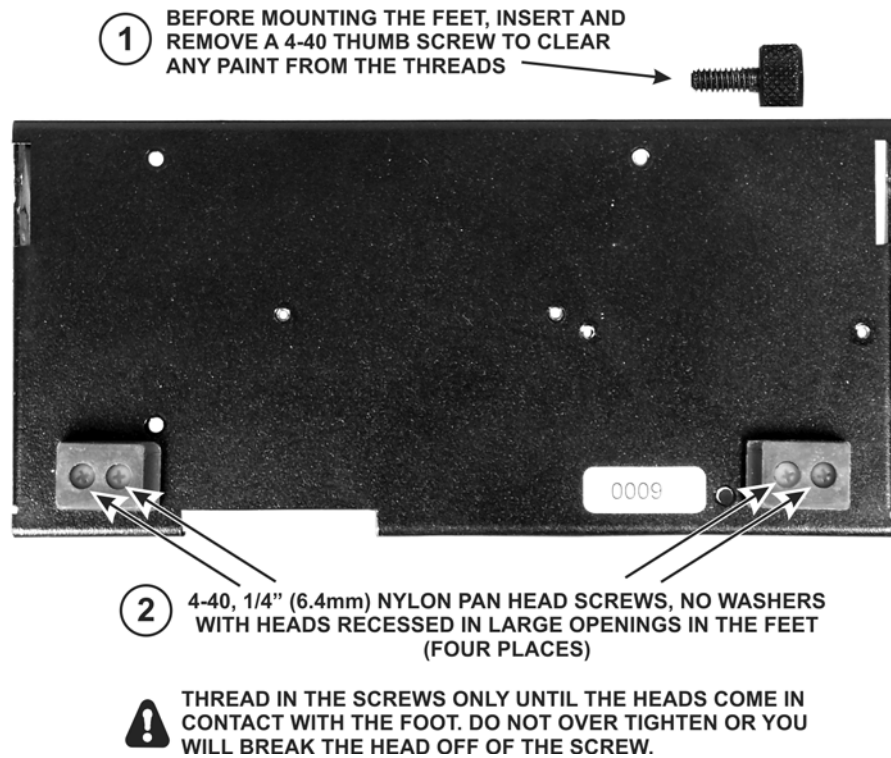

Figure 29. Mounting Rubber Feet on Bottom Cover.
- ☐ Mount two of the four rubber feet on the bottom cover using **nylon** screws as shown in Figure 29. First clear any paint out of the threads with one of the black 4-40 thumbscrews. Orient the feet so that the heads of the screws are recessed in the large openings.